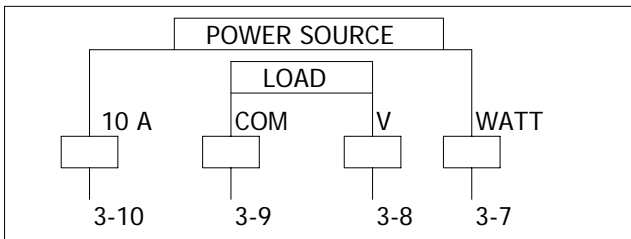

Fig. 2
Make the wire connection and connect the test leads into terminals (3-7, 3-8, 3-9, 3-10) as the Fig. 2
- 4) * **Connect the " LOAD " to the terminals of 3-8, 3-9, refer Fig. 2.**
* **Connect the " POWER SOURCE " to the terminals of 3-7, 3-10, refer Fig. 2.**
" V Terminal " (3-8, Fig. 2) & " COM terminal " (3-9, Fig. 2)
Current transformer output connect to the " 10A Terminal " (3-10, Fig. 2) & " COM terminal " (3-9, Fig. 2)